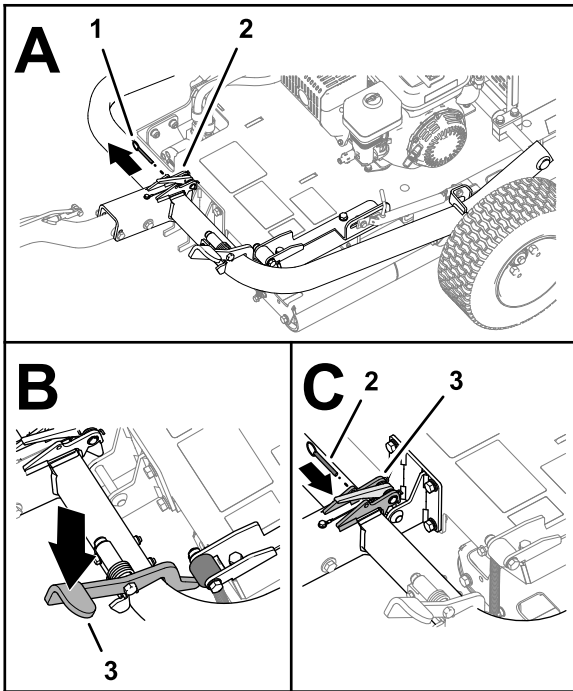

Figure 8
6. If installed, remove the locking pin from the latch (**Figure 8**).
7. Step on the hitch pedal until the hitch locks into place (Figure 8).
8. Insert the locking pin through the holes in the latch (Figure 8).